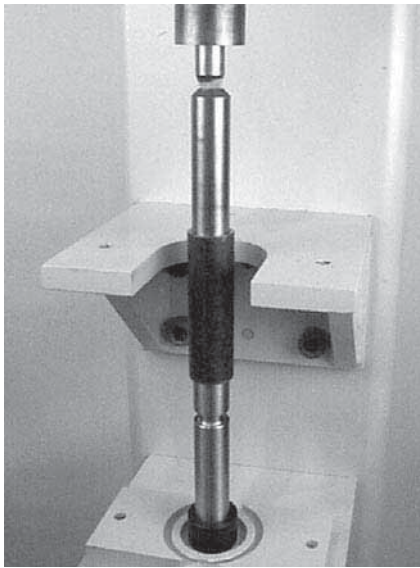

Figure 47
5. Using arbor press or similar device, press bearing onto pulley shaft (Figure 47).